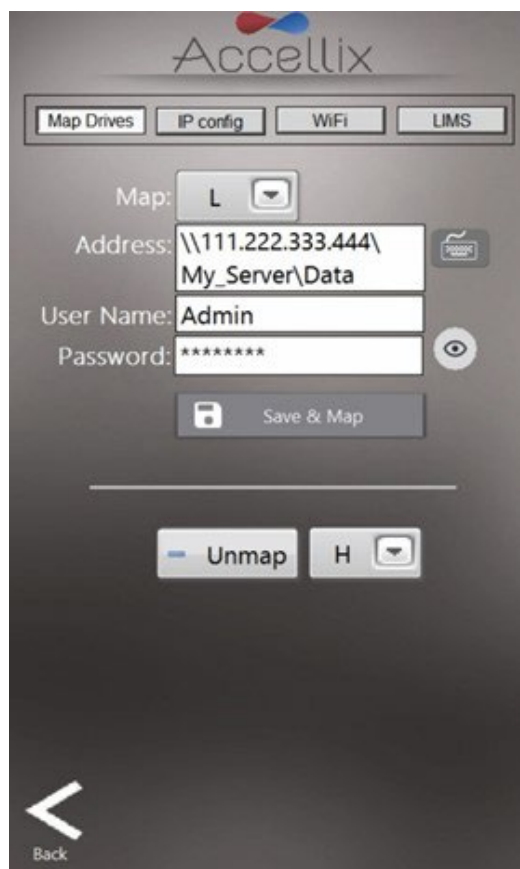

Figure 26: Network Screen: Map Drives tab
The **Network function** screen (Figure 26), has 4 tabs:
1. The Map Drives tab (Figure 26) allows the user to map a drive letter to a network drive.